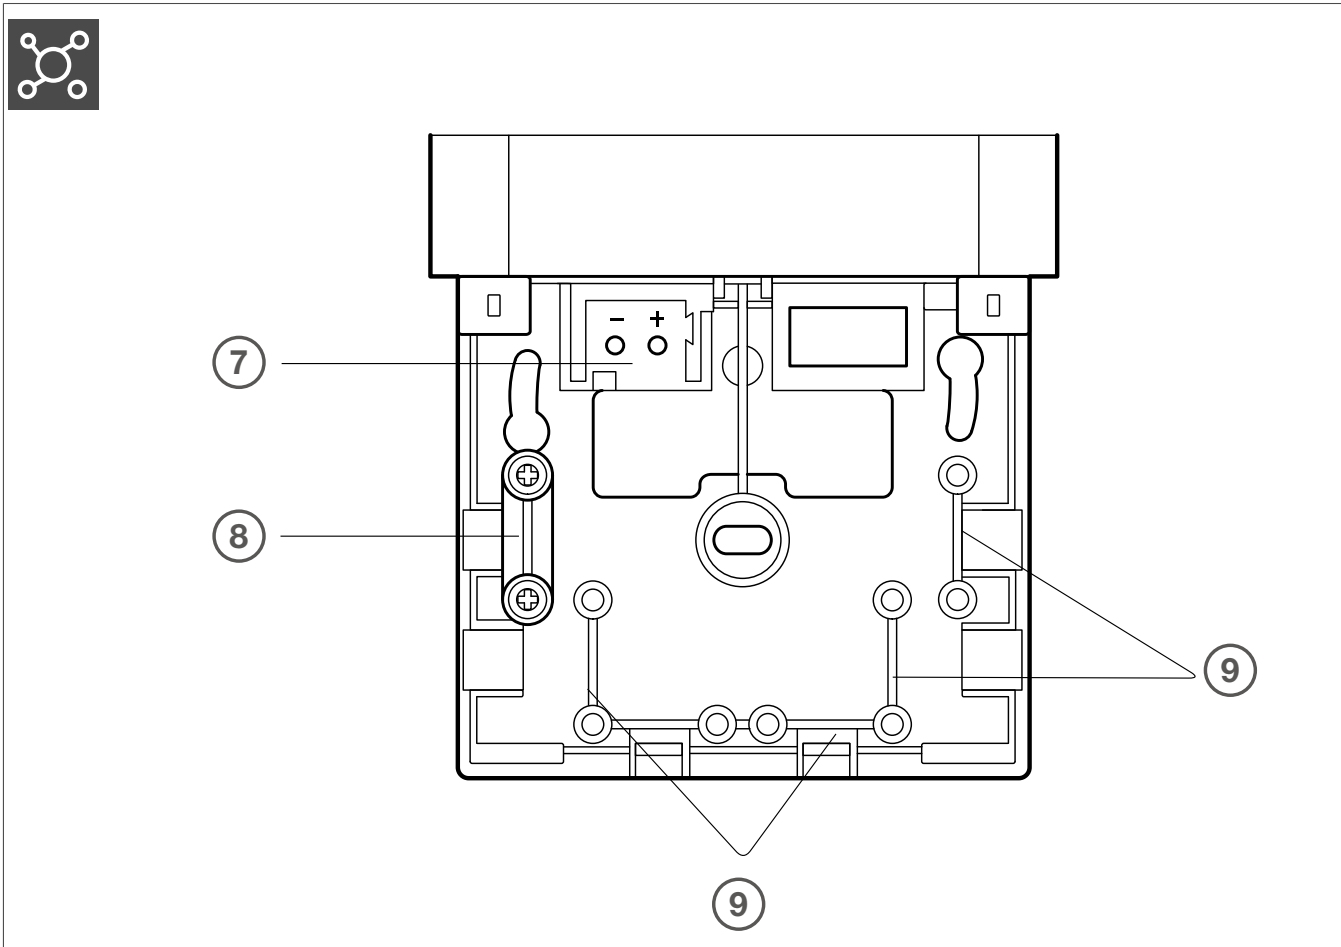

Fig. 3: Design and layout of the device behind the device cover
- The connecting line between the radio transmitter and the radio receiver should be selected in such a way that any path through masonry or other attenuating materials is as short as possible (see Figure 3). It is particularly important to avoid niches in walls, since they obstruct the propagation of radio waves.